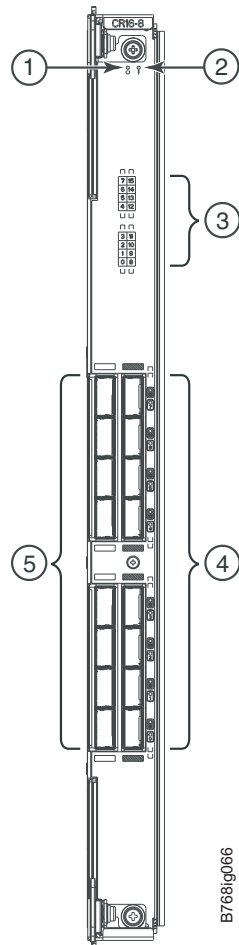

Figure 25. Core switch blade (CR16-8), LEDs and QSFP connectors
1. Check the LED indicators on the core switch blade (Figure 25 on page 73). The LED patterns may temporarily change during POST and other diagnostic tests; for information about how to interpret the LED patterns, see Table 9 on page 73.
Figure 25 identifies the core switch blade and its components